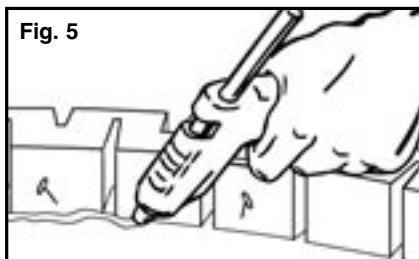

Fig. 5
However, it can leave lumps if used underneath thin materials like Risers, Incline Starters or Track-Bed. To use the Low Temp Foam Glue Gun and Glue merely run a continuous bead at the seam of the materials you are bonding (Fig. 5, pg.10). If you wish to use the Low Temp Foam Glue Gun and Glue, it is available at your favorite hobby store on the SubTerrain Merchandiser. *Important: Do not use a high temperature glue gun on this kit. It can damage the foam components.*
- C. Once all the Risers have been pinned down, glue them to the base (Fig. 5). **We recommend using the Low Temp Foam Glue Gun for this step.** If you choose to use Foam Tack Glue, see section on Adhesives, page 8. Glue by running a bead of Low Temp Glue at the base of each Riser. Do this on both sides of the Risers for a secure bond.